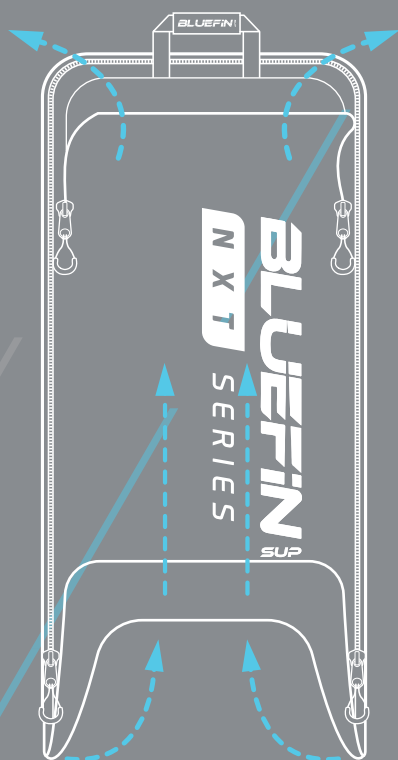

Figure 1.
- Open the outer front pocket on the bag and start pulling the pocket inside out. **Figure 1**